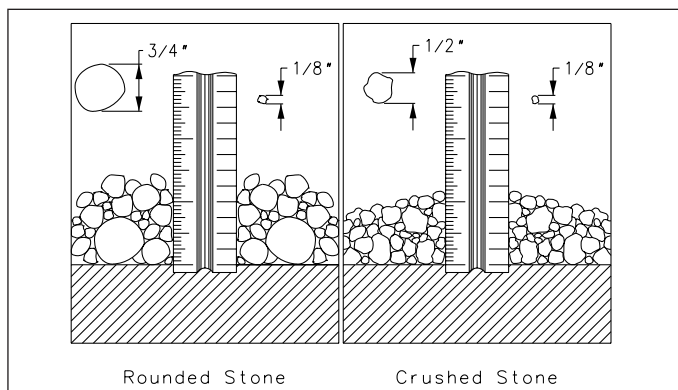

FIGURE 3-1
3.1. Xerxes wet wells must be installed using either rounded stone (pea gravel) or crushed stone as the backfill material. (See FIGURE 3-1.) For additional information, refer to the Xerxes document, Backfill Guidelines which is available at Xerxes website, www.xerxes.com.